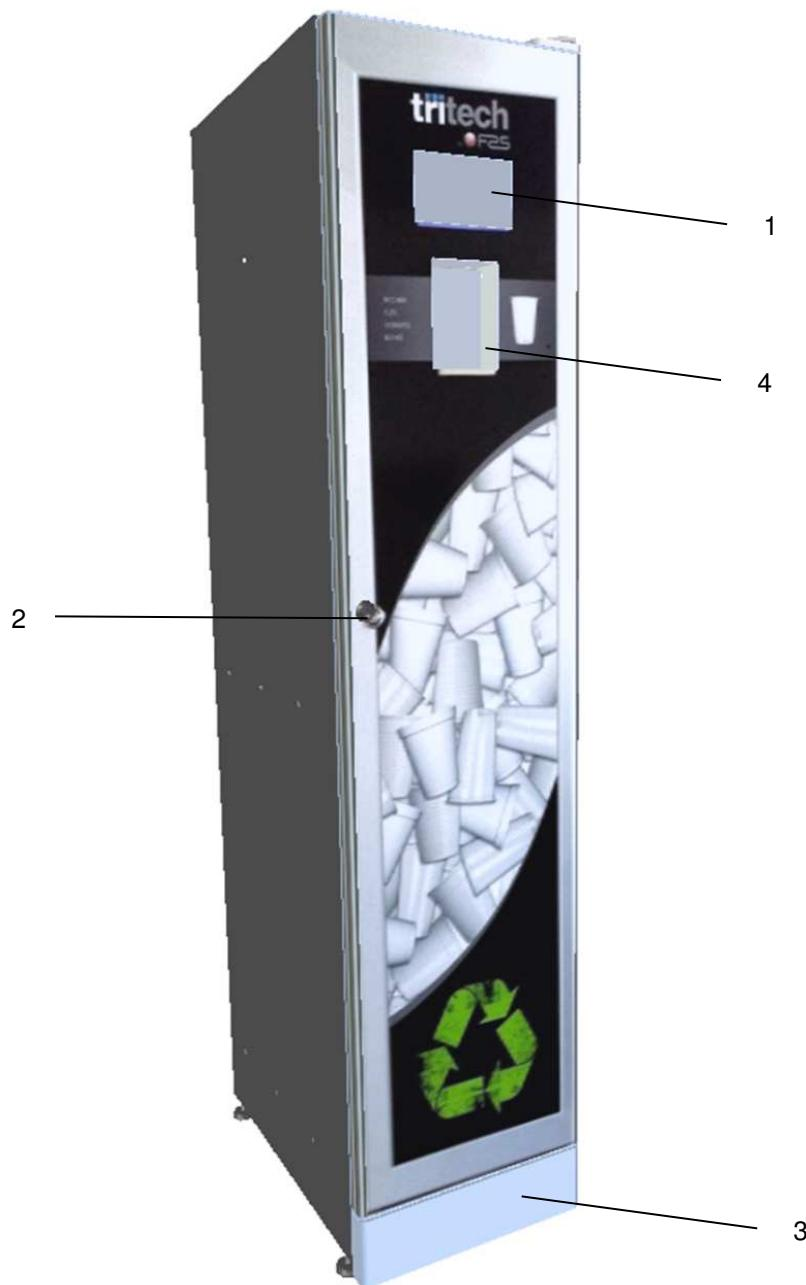

Fig. 3
2. The touchscreen display (ref. 1 fig. 3) comes on; wait until it reads: “**INSERT BOTTLE OR CAN**” or “**INSERT CUP**”
1. Push on the hatch ref. 4 figure 3 with the bottom of the bottle or can, just enough to overcome the force of the small magnet holding it closed (for admissible bottle and can dimensions see Figure 2)